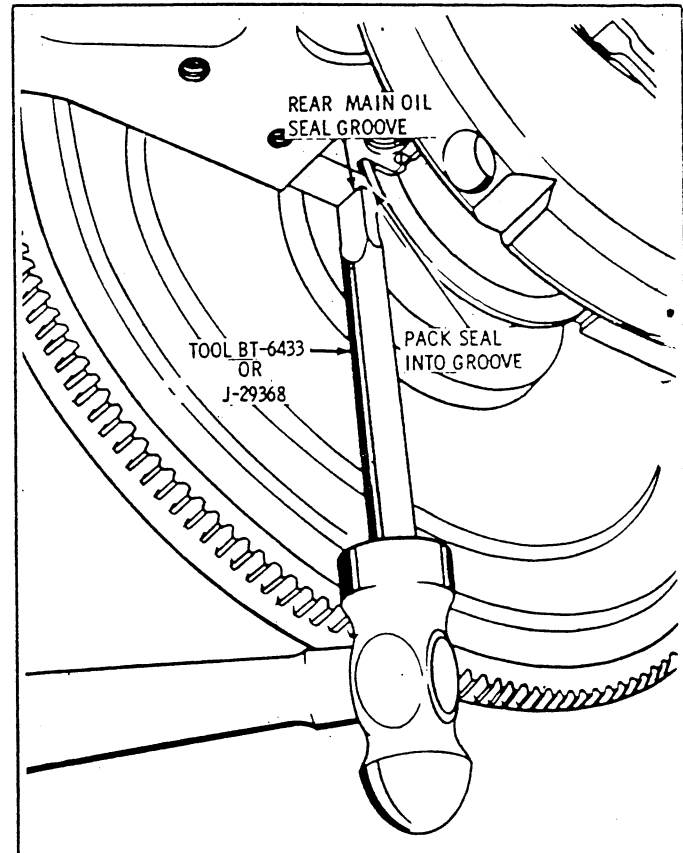

Fig. 53 Packing Rear Main Upper Oil Seal
Fig. 53 and 54
1. With Packing Tool BT-6433 or J-29368, drive both sides of the old seal gently into the groove until it is packed tight (Fig. 53).